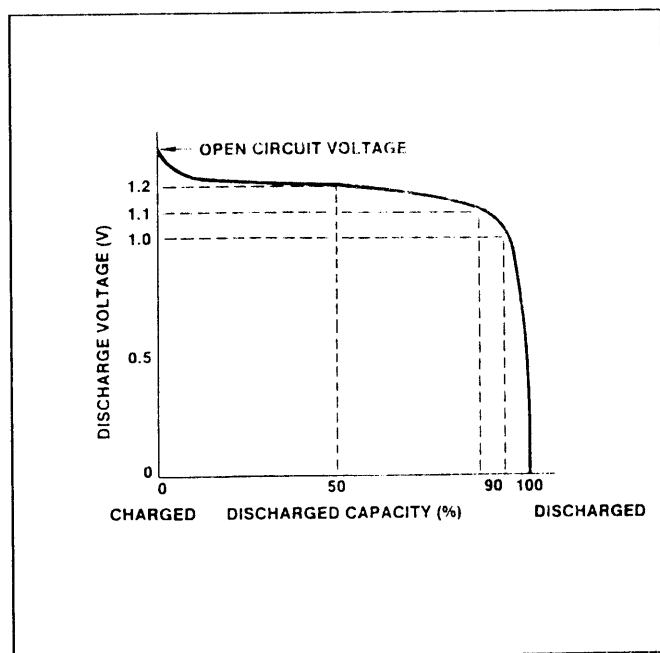

Figure 15 - Typical Cell Discharge Curve
1. Discharge the battery pack at a normal discharge rate until the output voltage is approximately 1 Volt per cell. This equals 6 Volts output for the M-PA battery packs. Refer to Figure 15. Note the flatness of the discharge curve from 0% - 90%. Experience shows discharging below the "knee" is not necessary.